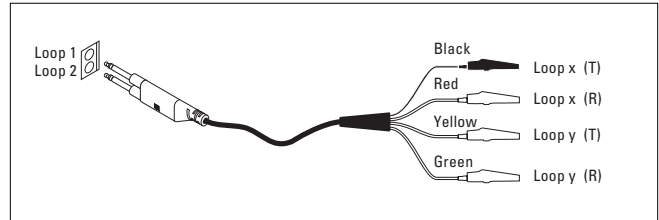

Figure 4. Test Cable
- When installing a test cable, maintain signal polarity by matching the LP1/LP2 bantam cable ends to the correct alligator-clip ends (LP1 bantam to loop 1 alligator slips, and LP2 bantam to loop 2 alligator clips). It does not matter which twisted-pair is considered loop 1 or loop 2 as long as the designations are consistent. See **Figure 4**.